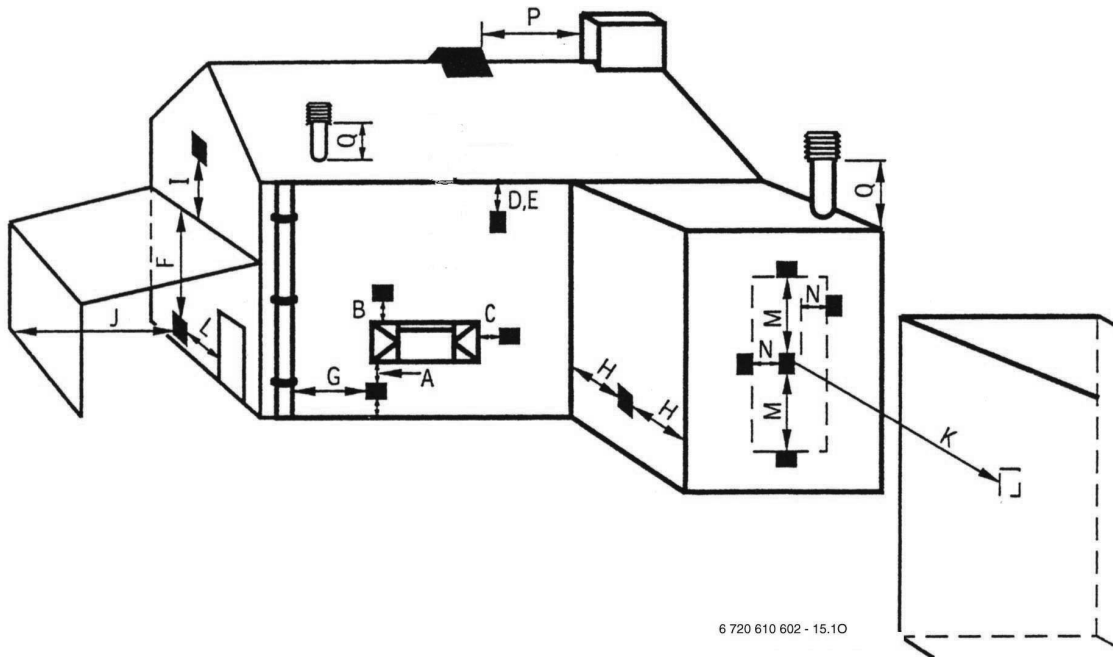

Fig. 15
The flue must be installed in accordance with BS 5440:1 and the Building Regulations. Flue terminals in carports and under balconies are to be avoided. The terminal must be positioned so that it does not cause an obstruction nor the combustion products a nuisance. See fig. 15 and table 9.
**Minimum dimensions of flue terminal positions (all types) (see fig. 15)**